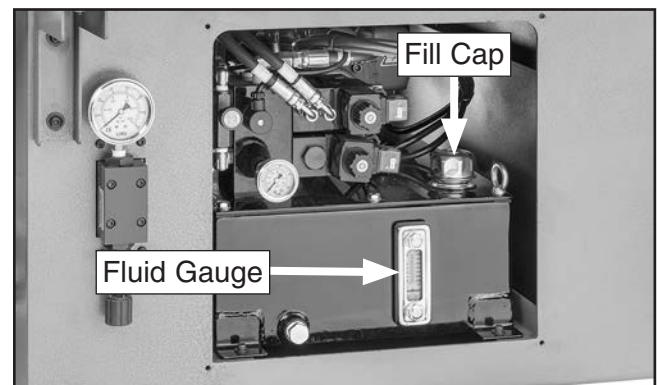

Figure 84. Hydraulic tank fluid gauge and fill cap location.
4. Check fluid temperature on thermometer mounted to hydraulic fluid tank (see **Figure 84**). The temperature should read between 50–95°F (10–35°C).
5. Remove tank cap (see **Figure 84**) and inspect for burnt-smelling or tan-colored, water-contaminated hydraulic fluid.